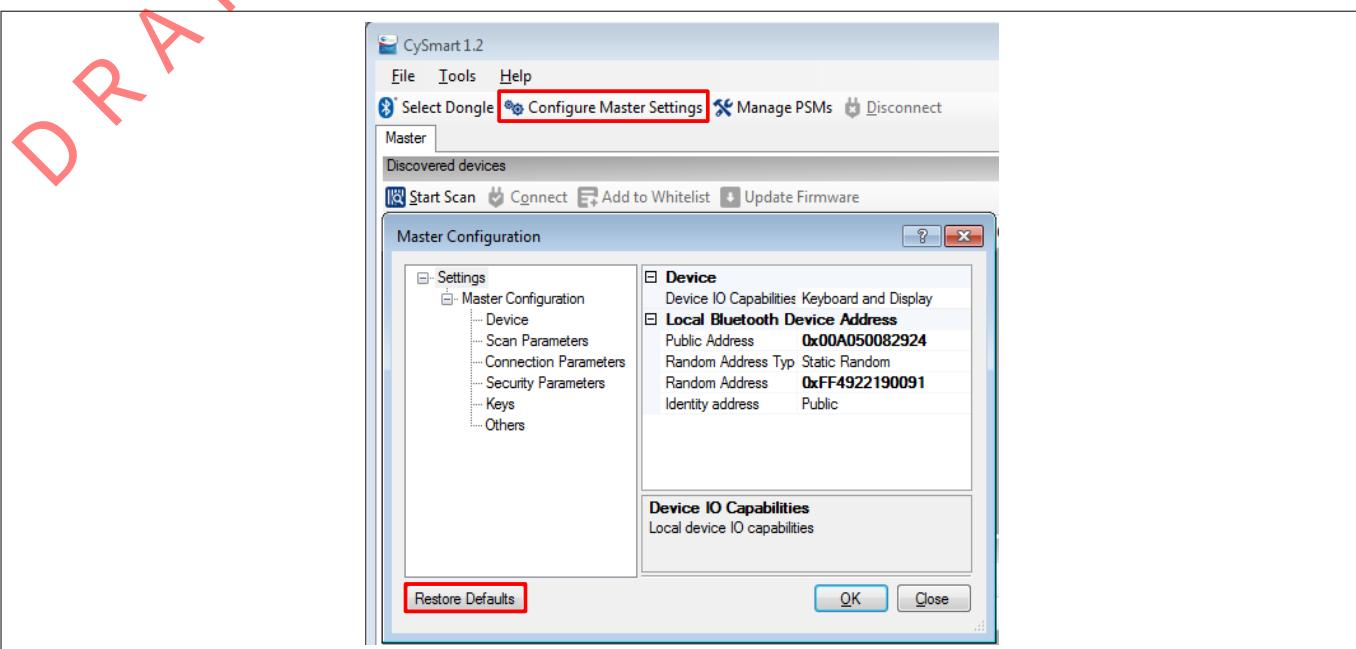

Figure 117 CySmart master settings configuration
- Click **Configure Master Settings** and then click **Restore Defaults**, as shown in Figure 117. Then, click **OK**